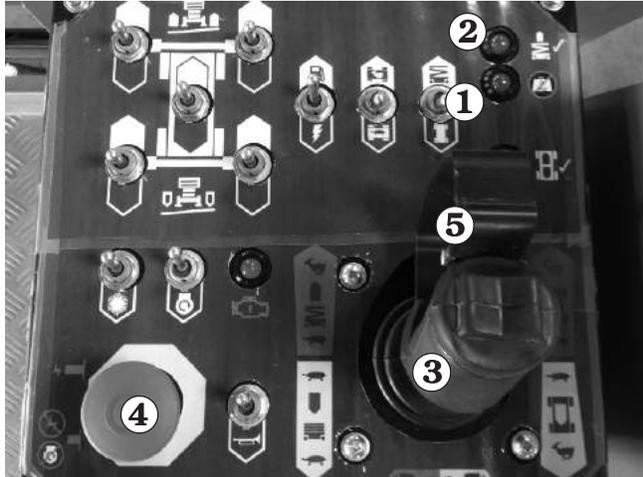

Figure 8.10
2. Set the **Lift/Drive Selector** ① (see Figure 8.10) to lift (left).
3. Squeeze and hold the **Safety Control** ⑤ against the Joystick Controller ③ (see Figure 8.10).
4. Pull the **Joystick Controller** ③ backward to raise the platform, or push it forward to lower it. The further you pull the **Joystick Controller** ③ backward, the faster the platform rises. There is only one (1) down speed.